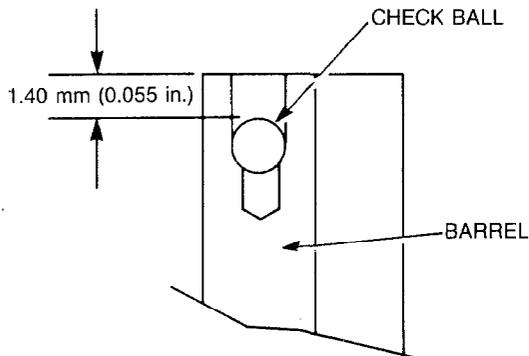

Figure 84 — Measuring Check Ball Depth
- h. Install the check ball into the barrel and using a depth gauge measure the distance from the top of the barrel to the check ball (see Fig. 84). If the measurement exceeds 1.40 mm (0.055 in.) replace the plunger and barrel.